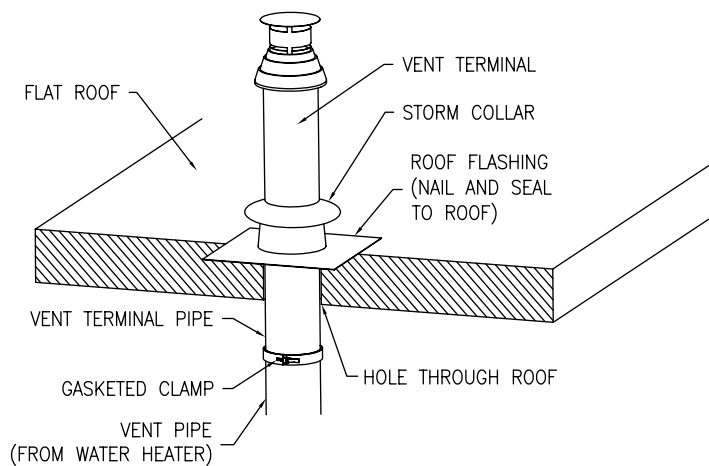

Figure 8
- (c) Cut a minimum 8 1/2 inch (21.6 cm) minimum diameter hole centered in the desired location for the roof terminal. (See Figure 8).